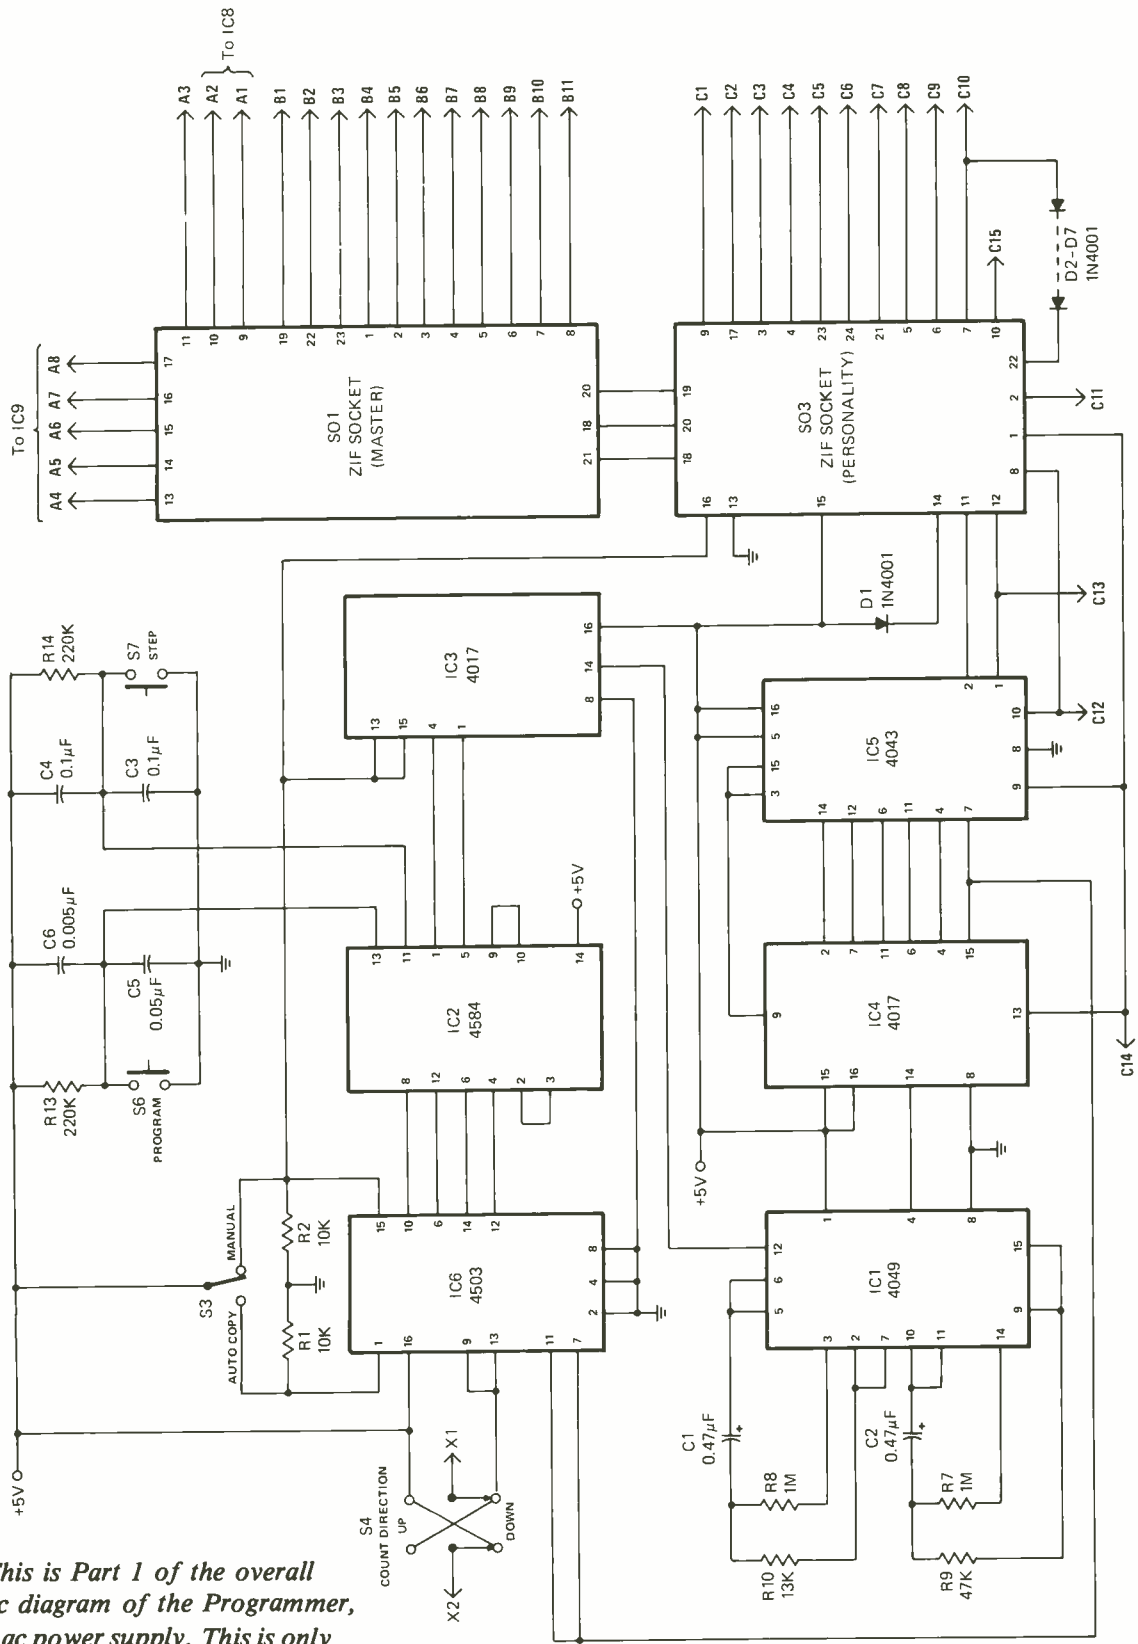

Fig. 2. This is Part 1 of the overall schematic diagram of the Programmer, minus its ac power supply. This is only the first of three parts.
The waveforms produced by the sequencing generator are used to turn on the EPROM's chip-enable (CE) and output-enable (OE) functions. Optoisolator IC14 (see Part 3 of Fig. 2) keys the higher programming voltages needed to program the EPROM. The appropriate waveform is connected to pin 5 through the personality plug to turn on IC14 and make the higher programming voltages available at pins 6, 7 and 22 of SO3 (see Part 2 of Fig. 2).